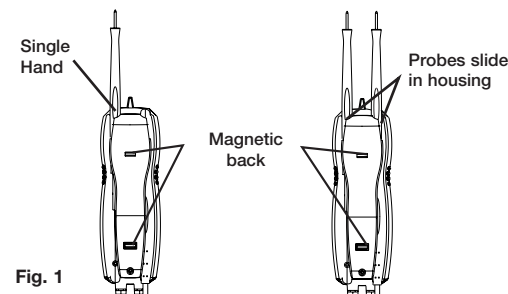

Fig. 1
4) This meter is designed with probe holders and magnets to allow for maximum versatility and single hand testing. Refer to the drawings in Fig. 1 for common setups.